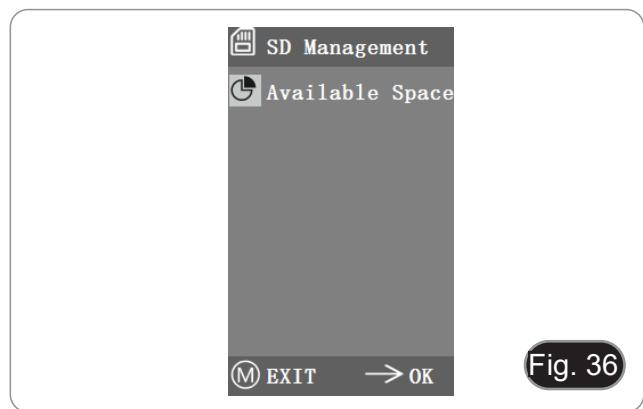

Fig. 36
1. After inserting the SD card, the remaining space and total space of the SD card can be seen in "Available Space". (Fig. 36)